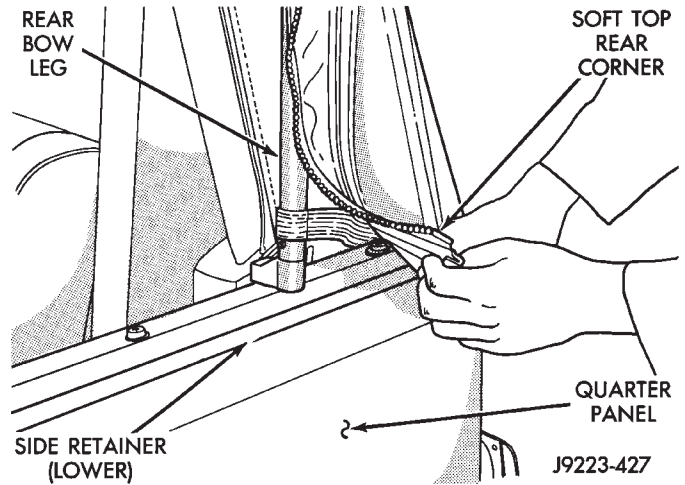

Fig. 108 Detaching Rear Corner Side (Lower) Retainer
(11) Pull the bottom edge of the rear corners outward and detach from the side (lower) retainer (Fig. 108).